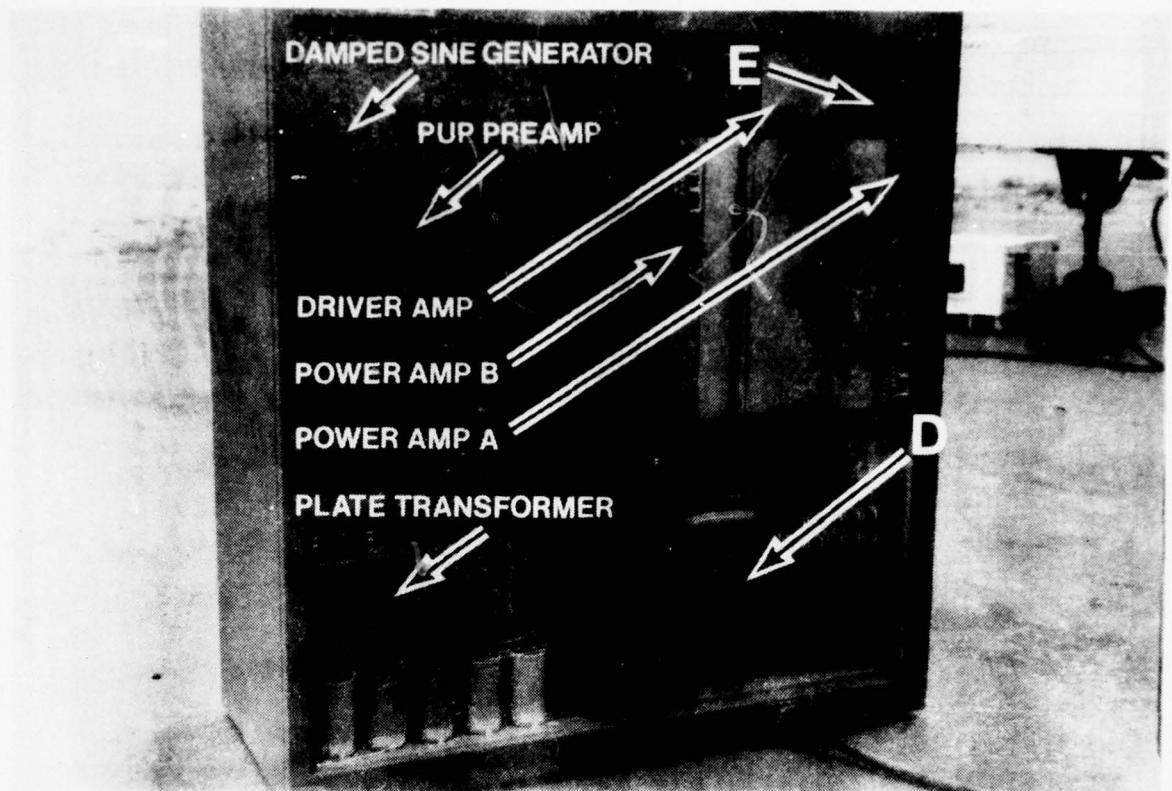

Figure 10. Completed Assembly With Rear Panels Removed
- F. Replace the side panel as shown in figure 10. The safety-light cord fits through a slot in the top of the panel.
- G. Replace the back cover on the rack containing the damped-sine generator and PUP preamplifier. Remove the left side cover of the rack containing the amplifiers. This is shown as "E" in figure 10.
- H. Make sure the fused-disconnect switch shown as "D" in figure 10 is off (handle down).
- J. Open the fused-disconnect switch ("D" in figure 10) and check for the correct voltages at the top lugs. (208 nominal volts between lugs.) Accurately measure the line to line voltage. The taps on the primary of the filament transformer must now be adjusted so that the line to line voltage as measured will result in 6.0 volts on the filaments of the tubes in the power amplifiers.